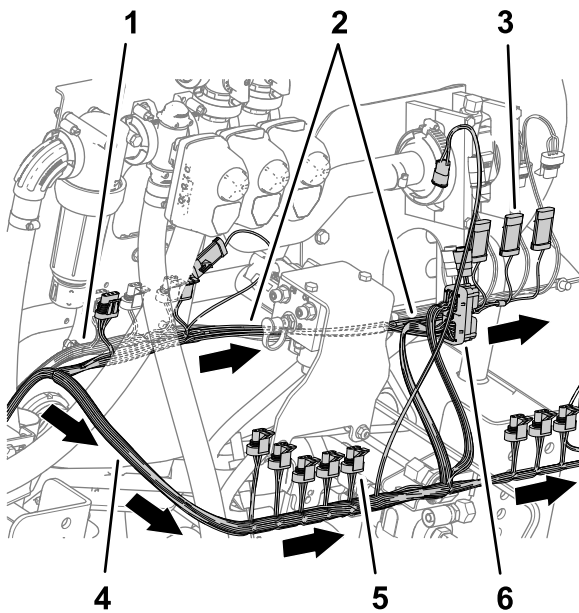

Figure 86
7. At the back of the machine, route the 89 cm (35 inch) wire-harness branch forward of the lift manifold, and to the right of the flow meter as shown in Figure 86.
8. Route the 102 cm (40 inch) wire-harness branch rearward of the lift manifold, and to the right as shown in Figure 86.